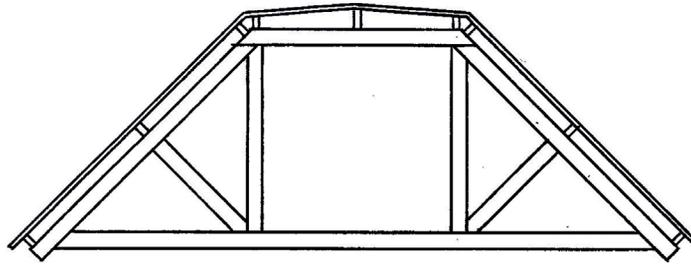

Figure 21
3. Figure 21 is a drawing of another type of queen-post truss. Copy Figure 21 and shade the queen-posts on your drawing.